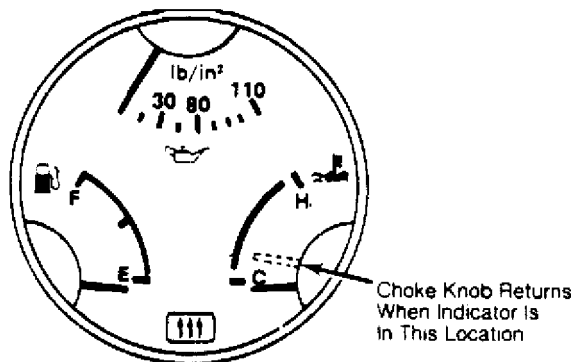

Fig. 2: Engine Temperature Indication for Release of Choke Knob
- 2) Connect tachometer to engine. Start engine and set engine speed at 2000 RPM with choke knob. With engine running, choke knob should automatically return when engine temperature indicator is in position shown in Fig. 2.